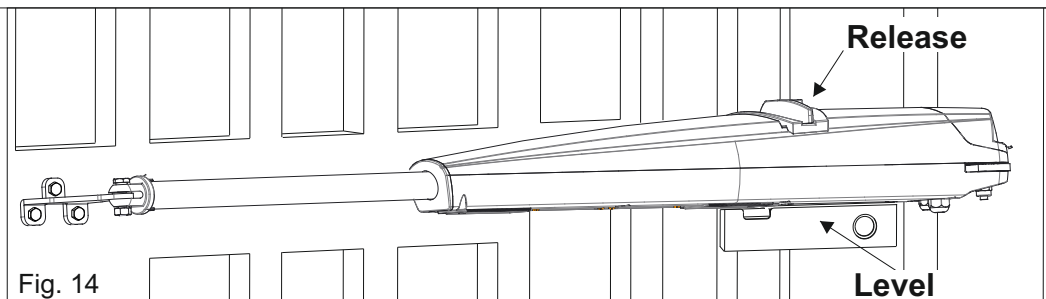

Fig. 14
- 1 - For the correct operation it is very important to position both the operator and its front and rear fixing brackets, in a perfectly horizontal way, by using a level, as shown in Fig. 14
- 3 - The operator must be mounted with the release facing upwards (Fig. 14)
*The support must be positioned so that the operator is in a perfect horizontal position (see Fig.14)*